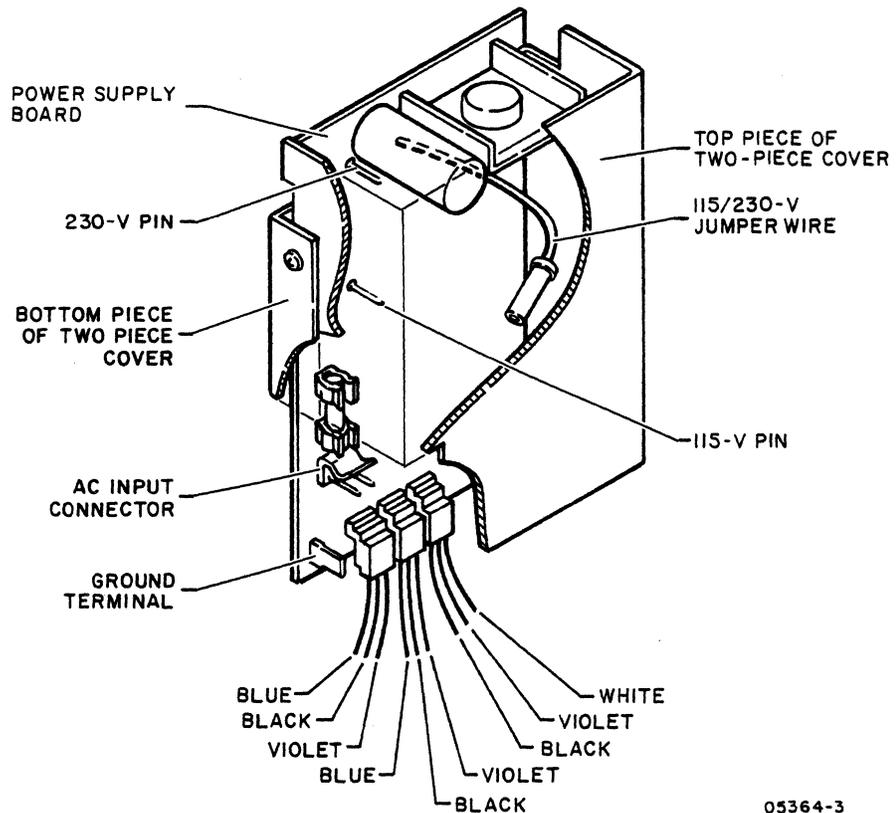

Figure 6B-5. Power Supply Board with Cover
1. If unit being worked on is a 110-V ac, 60-Hz terminal (part number 51942413), do the preceding steps of removal procedure in reverse order and action. When replacing power-supply-to-main-logic-board cable, see figure 6B-5 for color coding of leads of the three power supply connectors. If unit being worked on is a 220/240-V ac, 50-Hz terminal (part number 51942414), the following must be done to the new power supply before replacement: